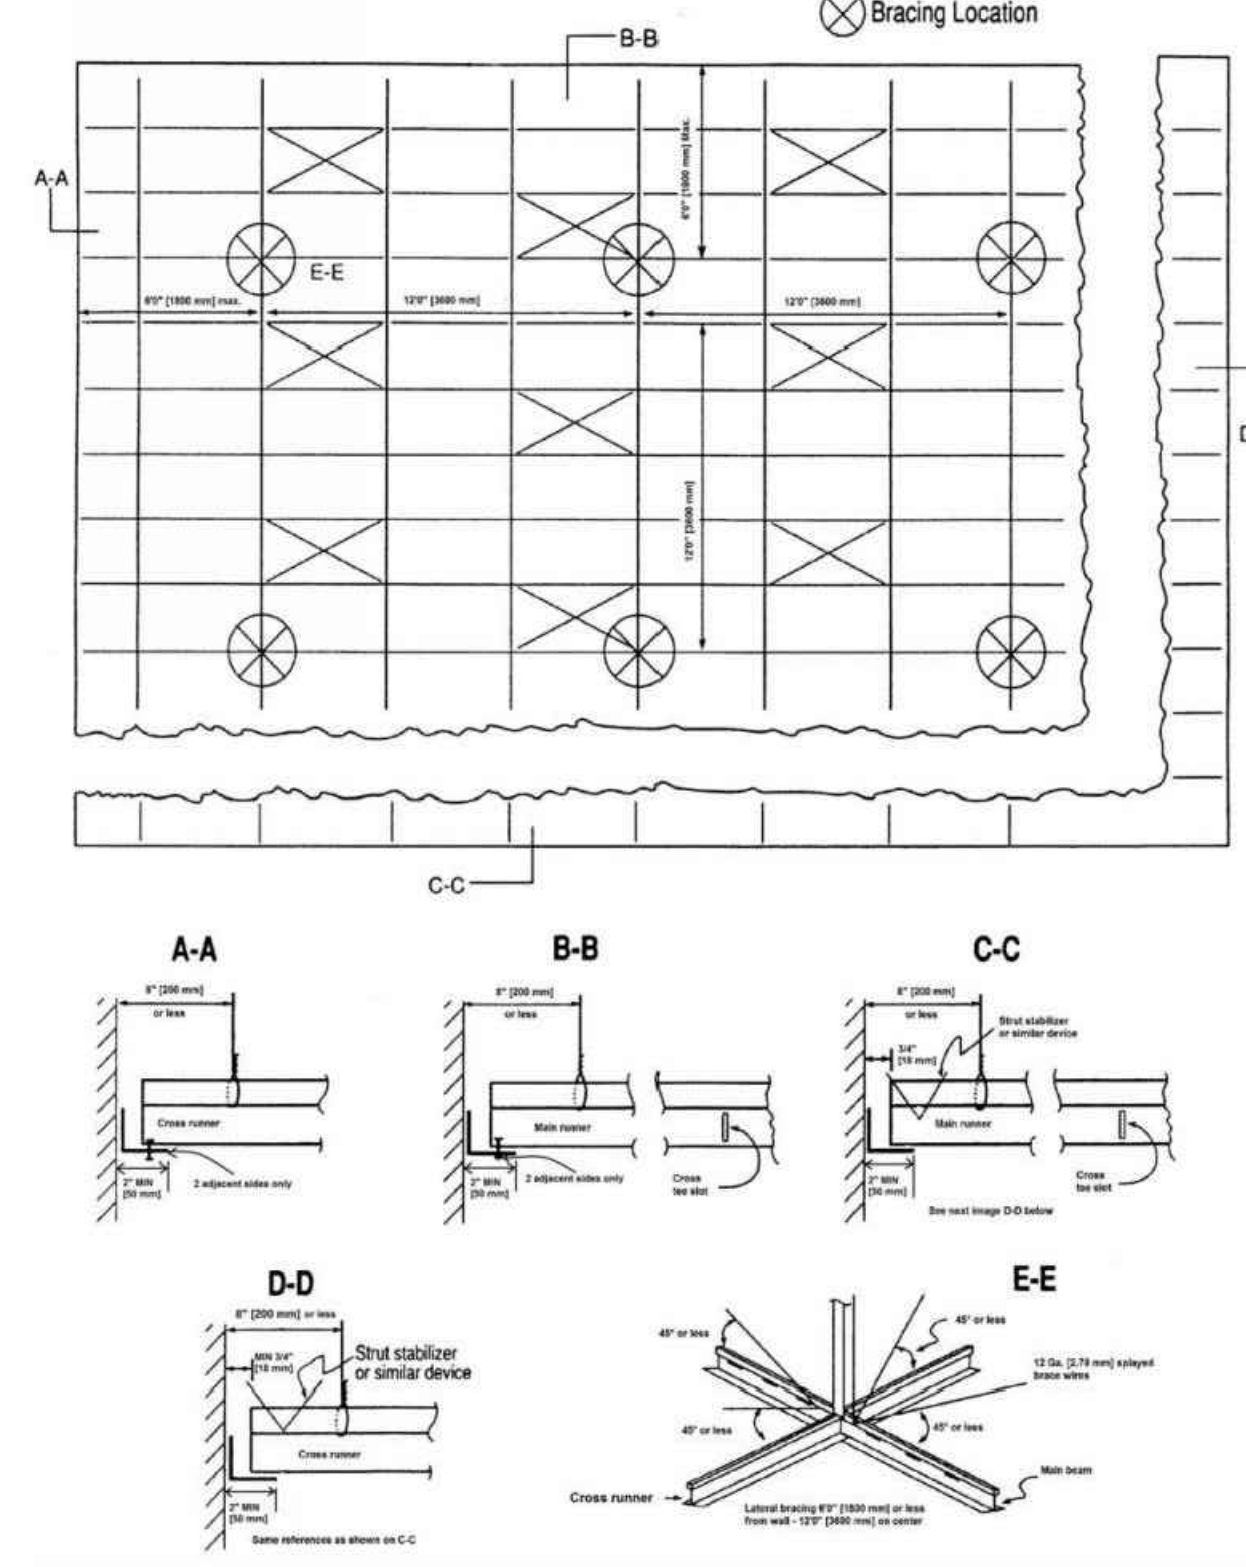

FIG. 4 Categories D, E & F Treatments
5.2.3 Main runner and/or cross runner ends shall be attached to the perimeter on two adjacent walls. A clearance of 3/4 in. [18 mm] shall be maintained between the main runner and cross runner ends and the perimeter members on the two opposite walls (see Fig. 4, C-C). On the walls where the terminal end runners are not fixed to the perimeter supporting closure, allow for 3/4 in. [18 mm] axial movement.
5.2.6 The terminal end of each cross runner and main runner shall be supported independently, a maximum of 8 in. (200 mm) from each wall or ceiling discontinuity with No. 12-gauge [2.70 mm] wire or approved wall support. See Fig. 4.
5.2.8.2 Horizontal restraints shall be effected by four No. 12-gauge [2.70 mm] wires secured to the main runner within 2 in. [50 mm] of the cross runner intersection and splayed 90° from each other at an angle not exceeding 45° from the plane of the ceiling. A strut fastened to the main runner at the location of the bracing wires shall be extended to and fastened to the structural members supporting the roof or floor above. The strut shall be adequate to resist the vertical component induced by the bracing wires. These horizontal restraint points shall be placed 12 ft [3600 mm] on center in both directions with the first point within 6 ft [1800 mm] from each wall. Attachment of the restraint wires to the structure above and to the main runner shall be adequate for the load imposed. See Fig. 4.